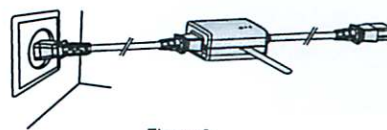

Figure 2
2. Connect the other end of the projector's power cord to the electrical socket (Figure 2). The indicator light will turn on and stay on.